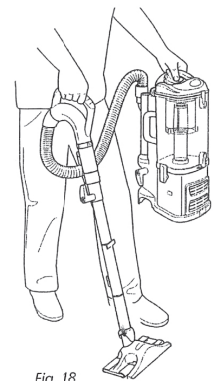

Fig. 18
- Attach Dust-Away™ hard floor attachment onto the end of the extension wand. (Fig. 18)